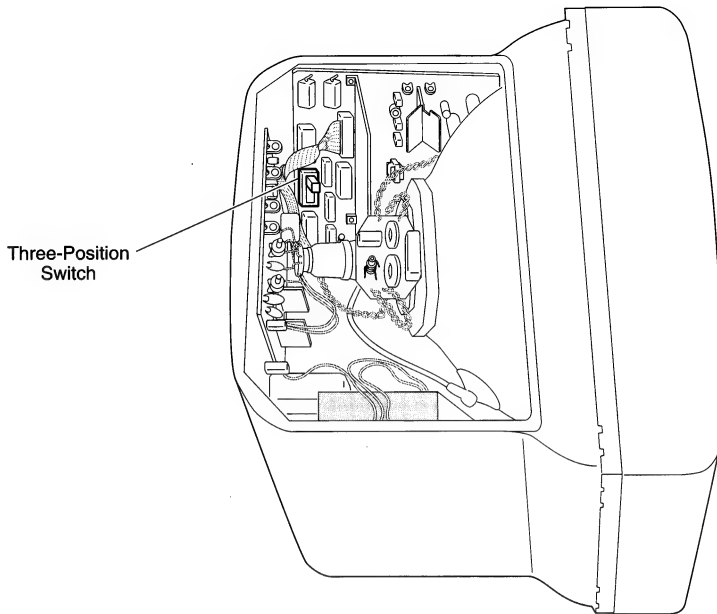

Figure 5 Three-Position Switch
8. FIGURE 5. If the boxes are not the same size, use an insulated (nonmetal) tool to reach inside the monitor chassis and set the three-position switch on the main board for best overall horizontal linearity.